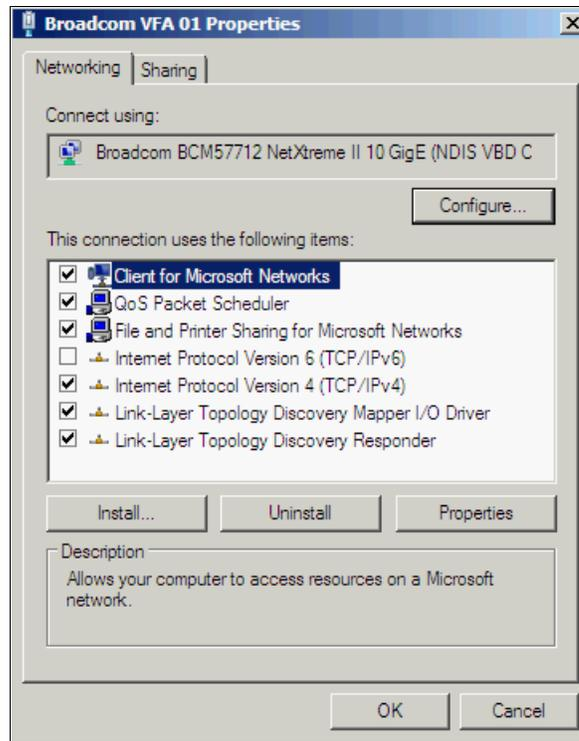

Figure 10-55 Broadcom VFA 01 properties window
2. In the Broadcom FVFA 01 Properties window (Figure 10-55), click **Configure** to configure the vNIC.